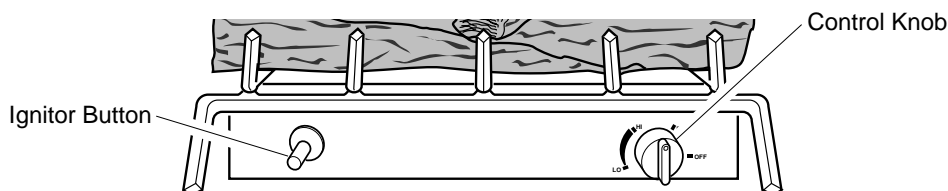

Figure 18 - Control Knob and Ignitor Button Location
4. Wait five (5) minutes to clear out any gas. Then smell for gas, including near the floor. If you smell gas, **STOP!** Follow "B" in the safety information in column 1. If you don't smell gas, go to the next step.
5. Slightly depress and turn control knob counterclockwise to the **PILOT** position. Keep control knob pressed in for five (5) seconds (see Figure 18).